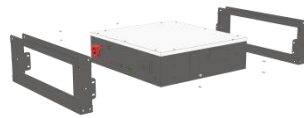
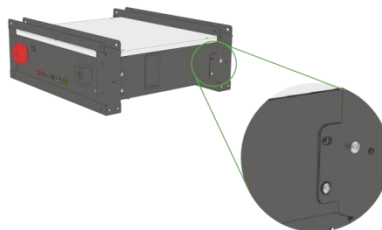

Figure 3-3
Figure 3-4
1. DL5.0e brackets The DL5.0e bracket is shown before installation as shown in Figure 3-3.
2. Place the DL5.0e and brackets as shown in the figure3-3, and insert the DL5.0e into the brackets. Each bracket is connected to the module by four screws, two screws on one side. As shown in Figure3-4.